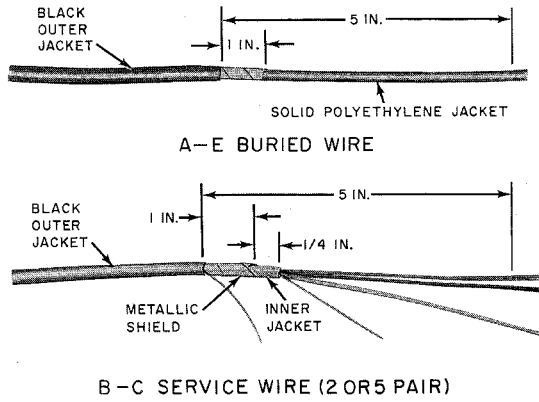

Fig. 7—Sheath Preparation for Placing F Connector
6.04 When terminating service or buried wire on the protector, connect the shield of the wire to the protector ground terminal with an F connector as shown in Fig. 7 and 8. Refer to Section 460-300-143 for detailed information on terminating buried wire.